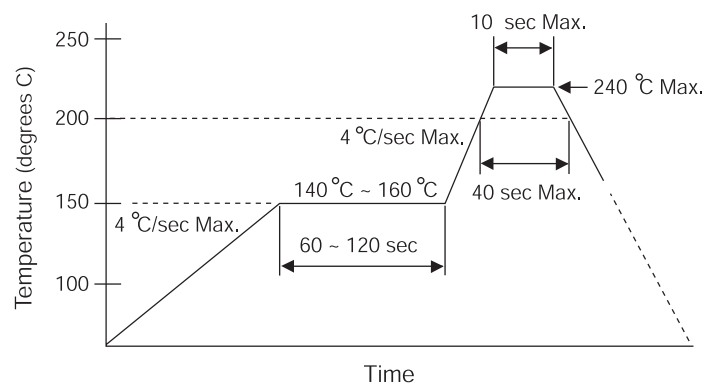

Figure 10. Temperature Profile at the Top Surface of ZHX1810
- The temperature profile at the top surface of ZHX1810, shown in Figure 10, is recommended.